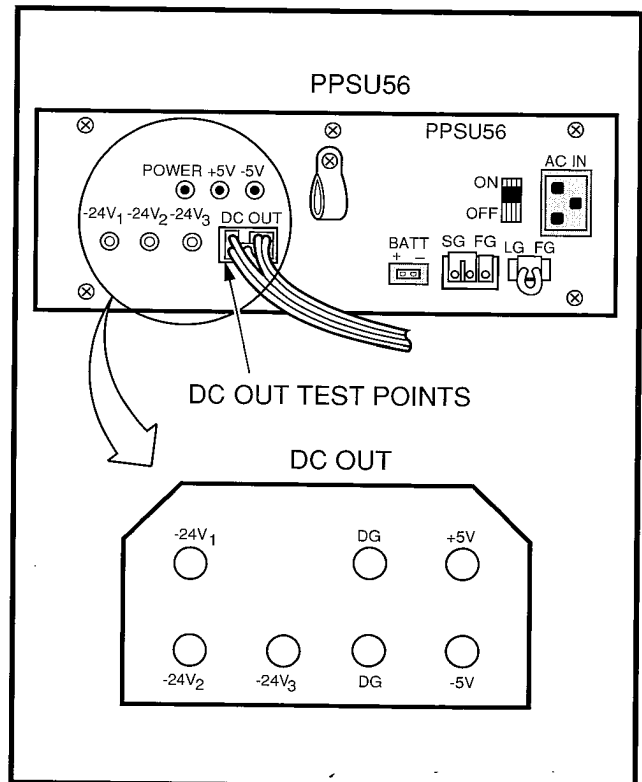

FIGURE 5-3—PPSU56 FRONT PANEL AND DC OUT TEST POINTS
4.12 DK56/96. Refer to Figures 5-3 and 5-4 and remove the power supply in accordance with the following steps:
- 3) Slide the power supply completely into the slot and secure it with screws (2) on the right side of the KSU.
4.22 DK56/96. Refer to Figures 5-3 or 5-4, and replace the power supply in accordance with the following steps: